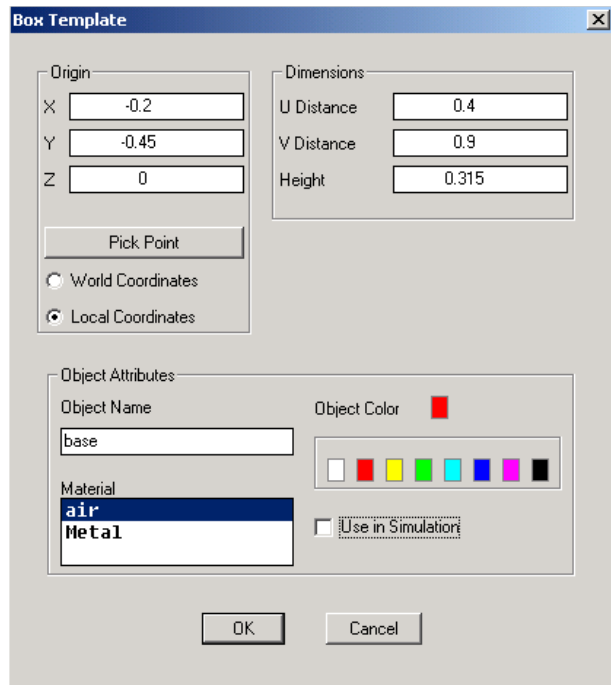

Figure 25 Box Template for the Horn Antenna
- 4 Fill out the template as in Figure 25. Then click **OK**. The antenna base is drawn on the draw screen.